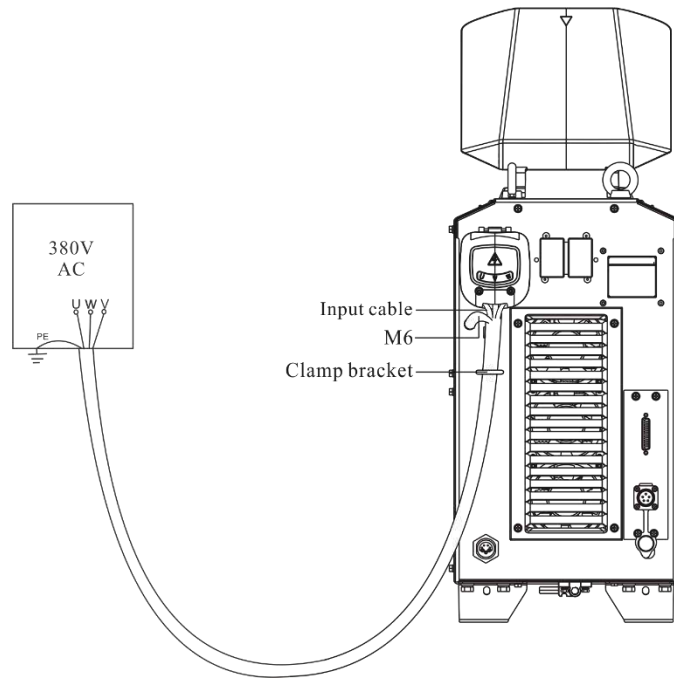

Figure2-6 Schematic diagram of 380VAC input power connection
4. Connect the other side of the power cable to the output terminal of switch on the distribution box and complete the connection.As shown in Figure 2-6.